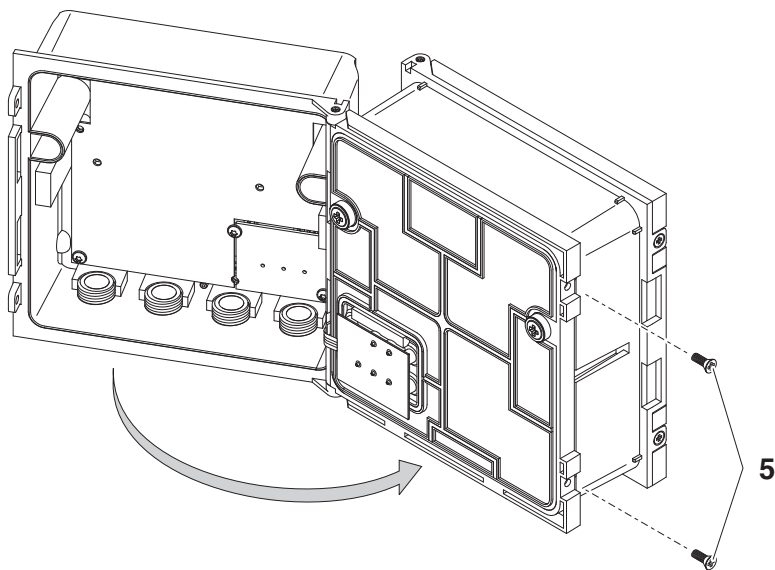

Fig. 3-13 Closing the enclosure (variant 2)
| 9 | Close the back MIQ module and fix it with the two countersunk screws (pos. 5 in Fig. 3-13). |